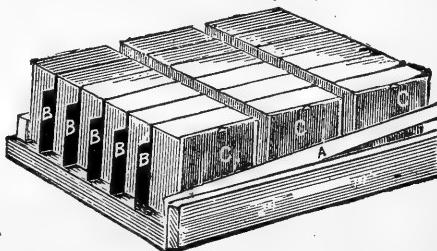
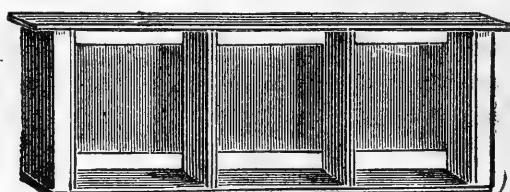

FIG. 14.—*Comb-Honey Rack.*
FIG. 18.—*Case of Prize Boxes for Langstroth Hive.*
The New Langstroth Hive is peculiarly adapted for the production of comb honey—its Honey Rack (Fig. 14) is the best in use, and perfectly adapted to the use of the Prize Boxes. It holds 18 Prize Boxes, with the separators between them, marked B B in the cut. The wedge (A) holds all with a vise-like grasp. The outer boxes are glassed (C C C) as they stand on the hive. By removing the wedge (A) any box may be instantly removed, examined, returned,
This case (Fig. 18) is made of  $\frac{1}{4}$  inch lumber, 2 inches wide, and holds three Prize Boxes. Such an arrangement must have a seven-inch story made for it, which may be lifted on and off the hive in one piece. It holds 21 Prize Boxes, and is used with success by many. Fig. 18 shows
Prize Boxes with a tight top-bar (2 inches wide) are used in the Comb-honey Rack, (Fig. 14) ; those used in Cases
(Fig. 18) have the top and bottom bars only  $1\frac{3}{4}$  inches wide—the Case being 2 inches in width, prevents any bees from going above it.
The above directions are for those used in Cases. (Fig. 18). Those with the tight top-bar, used in the Comb-honey Rack, (Fig. 14) have to be fastened with the tin points at the bottom, as before described, and ~~at the top~~ by having a tin point inserted outside of the glass.